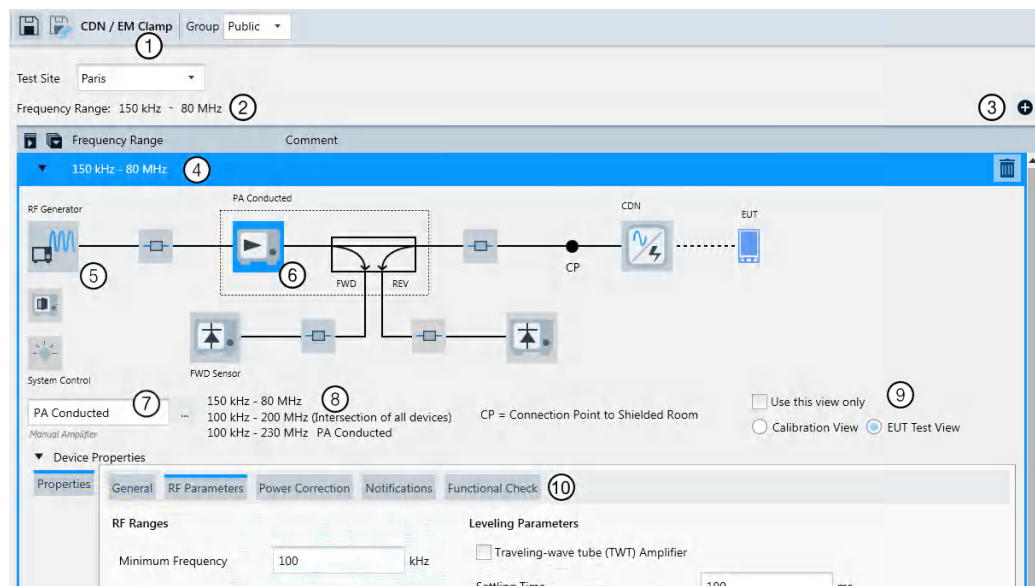

Figure 4-147: Example of an EMS hardware setup dialog
To add a frequency range, click the  button (labeled (3) in Figure 4-147). Per default, the added frequency range covers the next 10 MHz or 1 GHz on top of the highest existing frequency range:
A text line in the top of the dialog (labeled (2) in Figure 4-147) summarizes the total range from the lowest start frequency to the highest stop frequency of all ranges. This statement of the total frequency range within the hardware setup is just for your information and disregards any possible (preliminary) gaps.
The hardware setup diagram is available in two views (see buttons labeled (8) in Figure 4-147). Unless you select "Use this view only", both views must be configured: